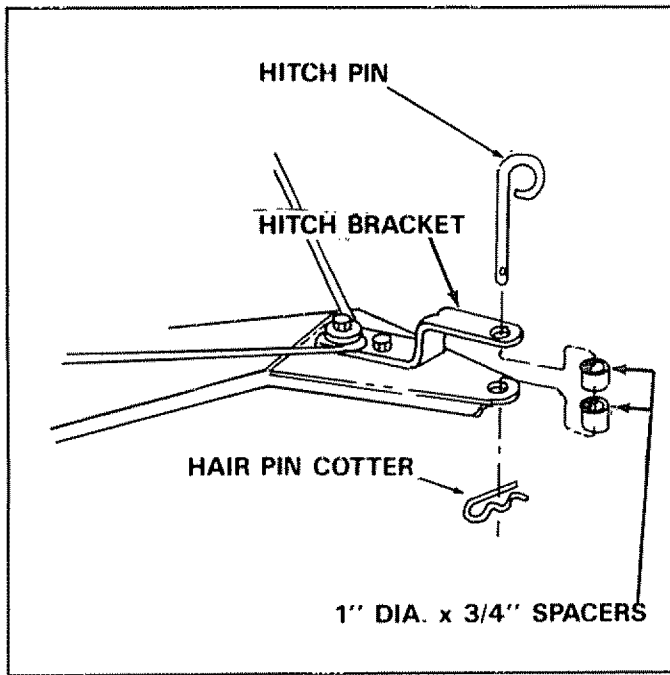

FIGURE 9
11. Assemble the hitch pin, two 1" dia. x 3/4" long spacers and hair pin cotter to hitch bracket and hitch tongue as shown in figure 9.